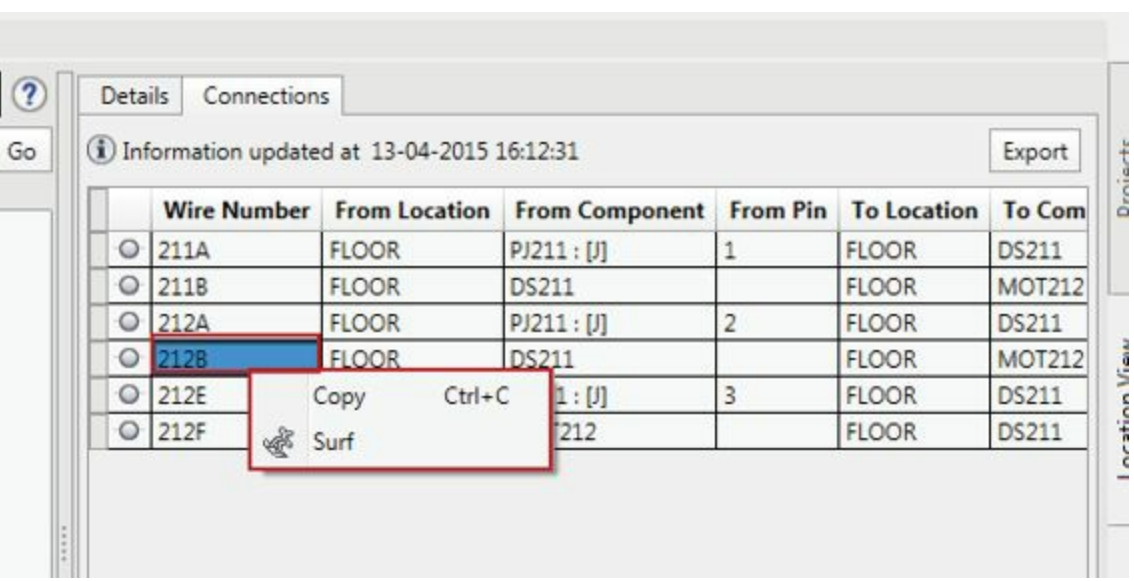

Figure-54. Shortcut menu for component
- If you want to check the component in the drawing then right-click on any field in the **Connections** tab for desired component. A shortcut menu will be displayed; refer to Figure-54.